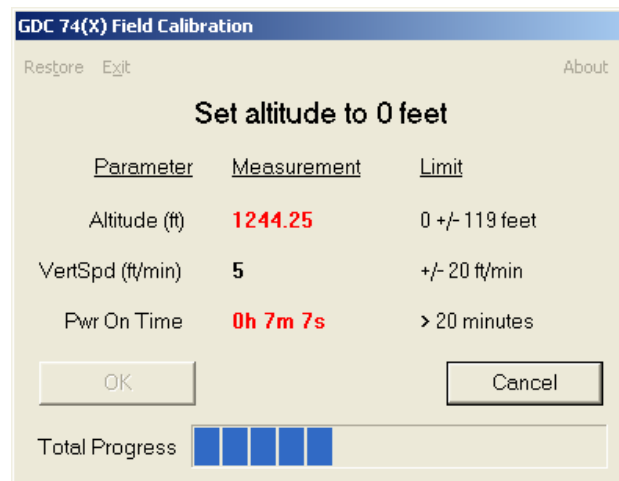

Figure 5-46. '0 Feet' Calibration Screen
11. After the unit type has been determined, the 'Set altitude to 0 ft' screen (Figure 5-46) appears.
22. After the altitude calibrations are complete, the 'Program Calibration to Unit?' screen (Figure 5-46) appears. Click 'OK' to program the new calibration to the GDC 74B unit.